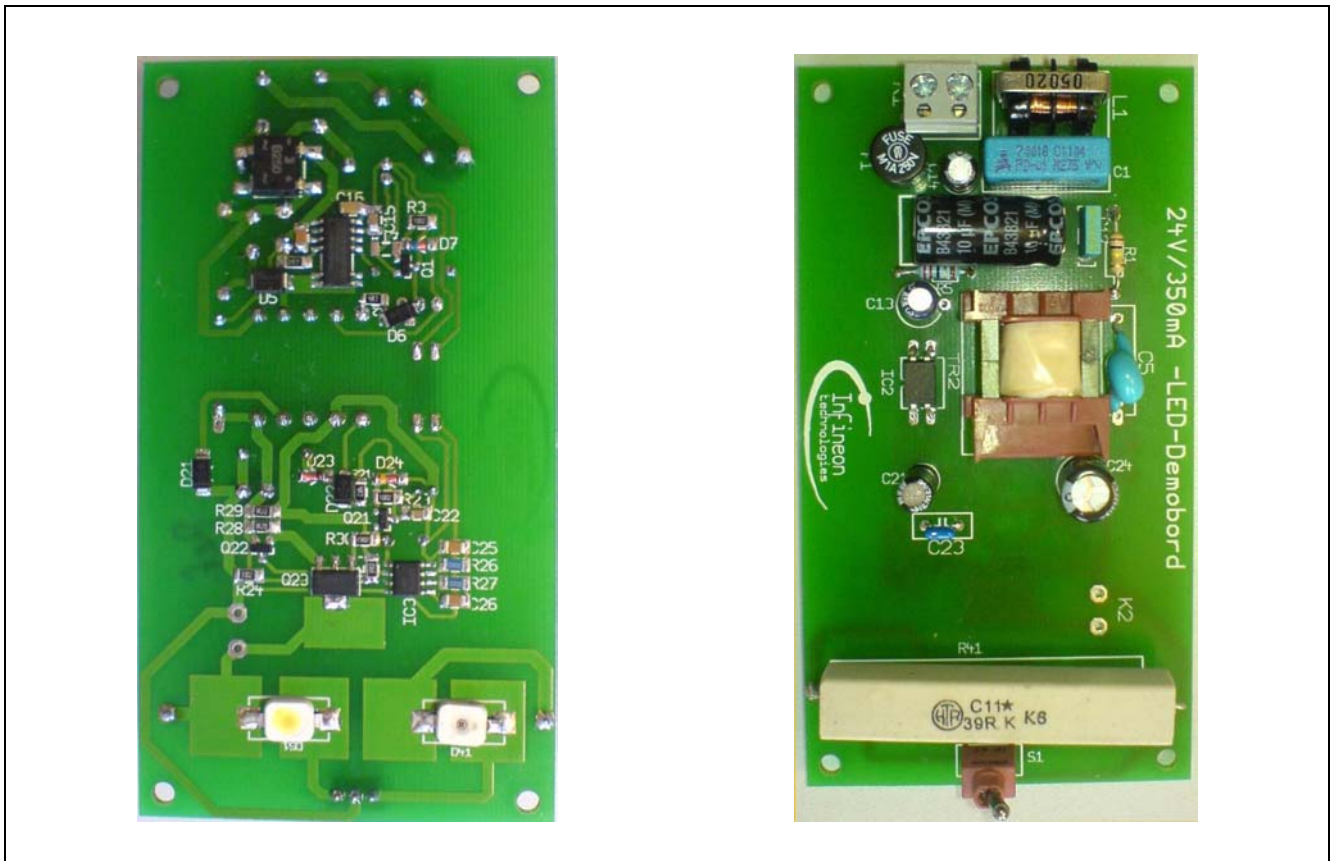
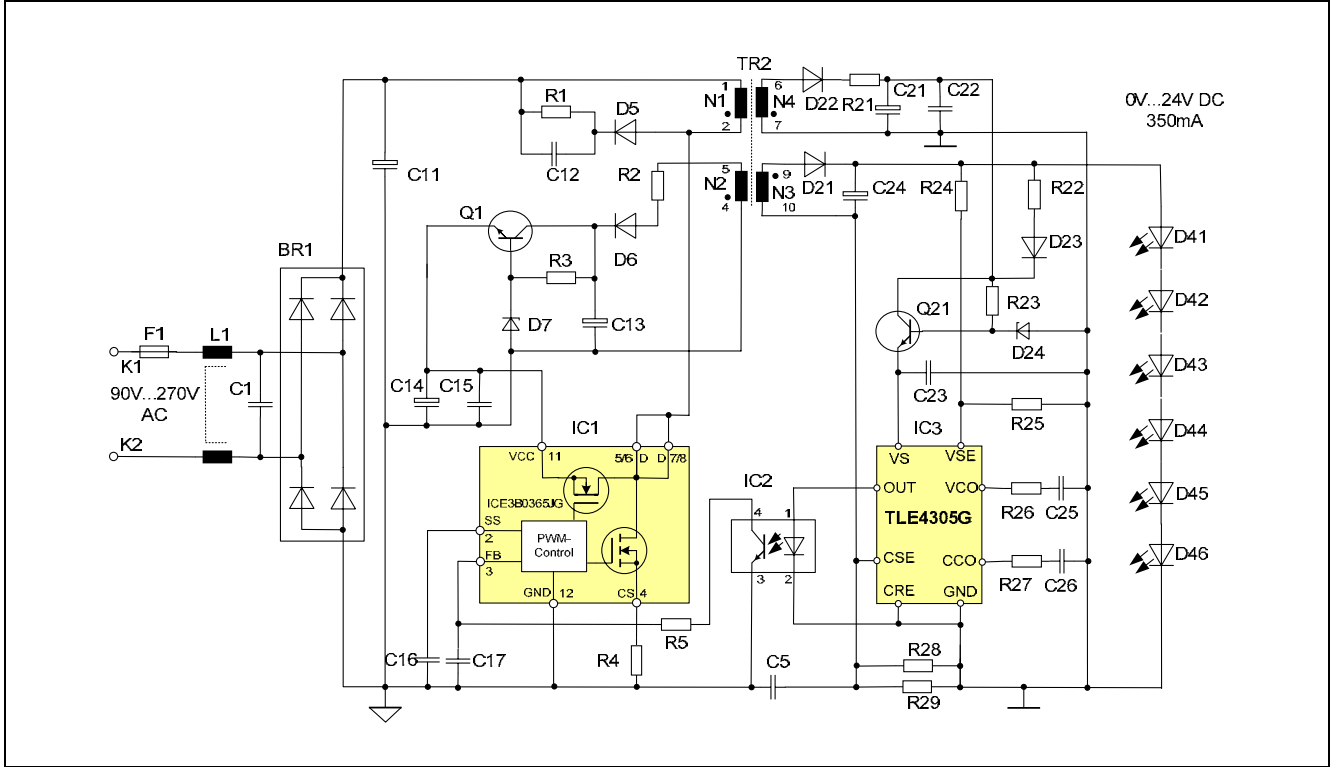
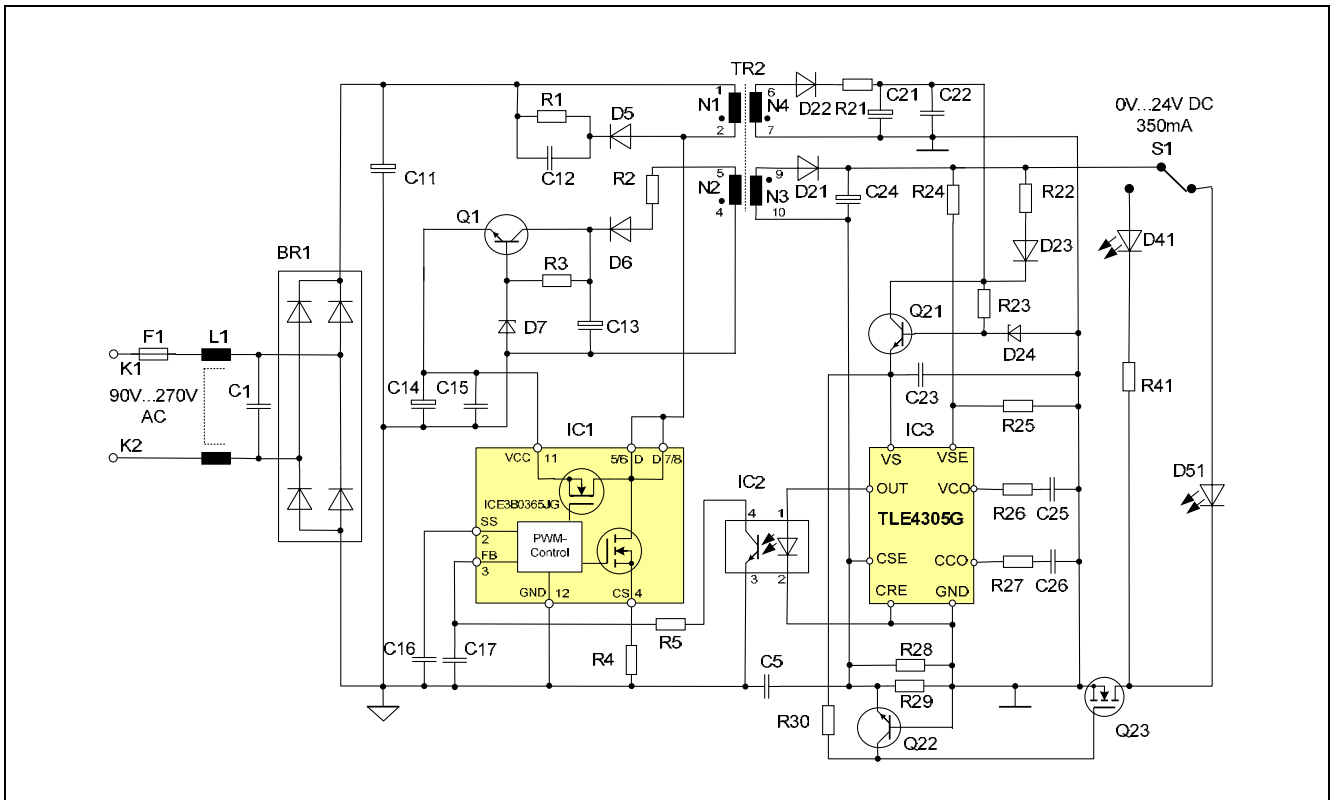

Figure 1 LED-ICE3B0365JG Demoboard
Figure 2 Power Supply Schematic for Continuous Load (Standard)
Figure 3 Power Supply Schematic for Alternating Load
Page 11	2007-10 Update Schematics (Figure 2 and Figure 3)
The Infineon Technologies AG proposes an isolated off line switch mode power supply (SMPS, see Figure 1) for a LED cluster used for wide line input voltage applications from  $V_{ACIN} = 90\text{ V}$  up to  $270\text{ V}$  in flyback topology. The application is fully protected against an open loop gain (OLP), short circuit (OCP), over temperature (OTP), over voltage at the  $V_{CC}$  stage (OVP), under voltage (UVLO) and a highly accurate power limiting in case of over load via Propagation Delay Compensation™ (patented by Infineon Technologies AG) in the whole line input voltage range. All protection features are using the auto restart mode. Optional, the application is able to drive the LEDs in a continuous load (Figure 2), or for alternating load, in that case, the LEDs are protected against surge currents during alternating loads (see Figure 3). The driver application uses the Infineon jitter system IC CoolSET™ F3 as PWM current mode controller with integrated MOSFET (CoolMOS™) and the TLE4305G as a current regulator on the secondary side. The application is designed to drive one  $350\text{ mA}$  high brightness LED or optional a series connection of up to 6 high brightness LEDs ( $350\text{ mA}$ ) in a high efficiency.
The SMPS for a LED cluster is an isolated off line discontinuous current mode (DCM) application in flyback mode using ICE3B0365JG – the smallest system IC from the CoolSET™ - F3 family. The circuit diagram in Figure 2 (standard continuous load) and Figure 3 (for alternating load) details a 24 V / 350 mA power supply which operates from an extended AC line input voltage range from 90 VAC to 270 VAC, suitable for applications requiring either an open frame supply or an enclosed application. By replacing  $R_{41}$  with high brightness LEDs, the application is able to drive 1 white and in additional 6 red LEDs. The efficiency of the application is above 85% - the TLE4305G regulates the current and a constant no load voltage.
*Note: This network is only needed in case of alternating load operation e.g. changing LEDs during operation mode and not for continuous load operations. In case of alternating load, a discharge current from the output capacitor  $C_{24}$  is present. This current causes a surge current peak through the LEDs. This might result in a damage or a destruction of the LEDs. To prevent a destruction of the LEDs, an optional surge current compensation network ( $R_{30}$ , Q22 and Q23 in Figure 3) can be implemented to limit the discharging current from the capacitor  $C_{24}$ .*